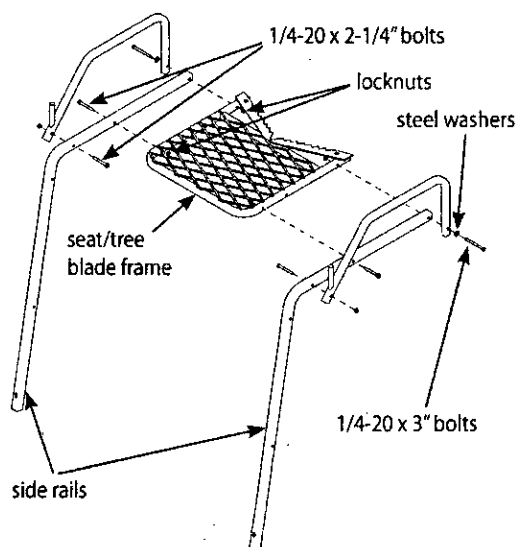

Figure 2
3. Attach the seat/tree blade frame (SL24) and the rear end of armrests (AR12) to the side rails using (2) provided 1/4-20 x 3" bolts, (2) 1/4-20 x 2-1/4" bolts, (4) locknuts and (2) steel washers. **SEE FIGURE 2.**
4. Attach the front end of each armrest to the side rails using (2) provided 1/4-20 x 2-1/4" bolts and locknuts. **SEE FIGURE 2. You must now tighten all nut & bolt assemblies. Be sure not to over tighten or crush tubing when tightening!**